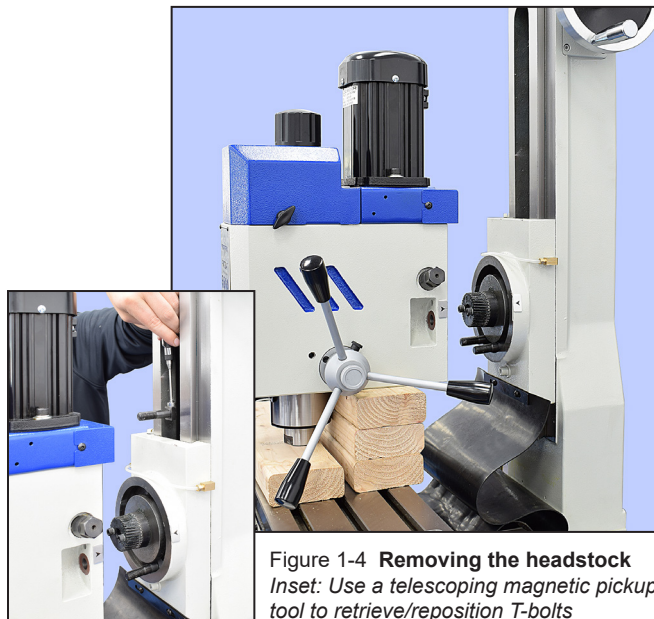

Figure 1-4 Removing the headstock
1. Assemble a stack of 2 x 4s as Figure 1-4. Lower and lock the quill so that the spindle nose rests on the front 2 x 4 (this is for balance, not for load bearing).